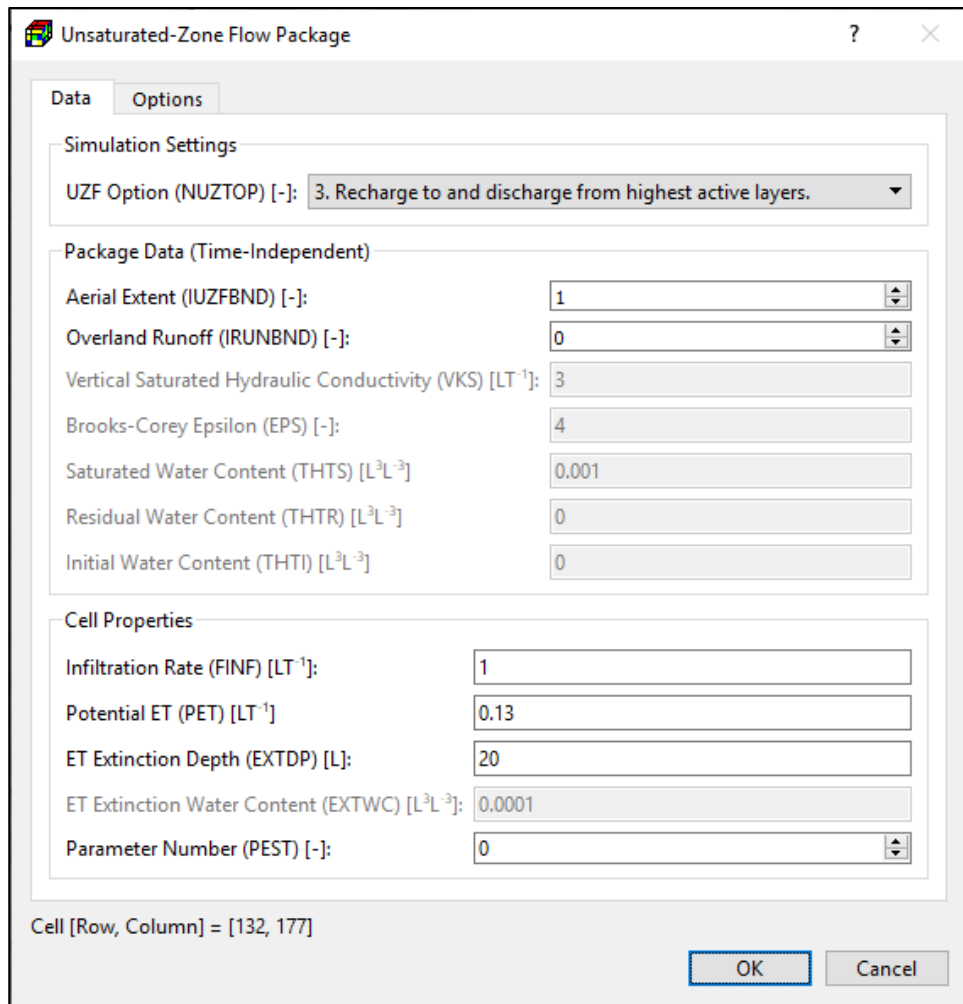

Figure 80. The Unsaturated-Zone Flow Package dialog box
1. All input methods: Figure 80 shows the dialog box for specifying cell, vertex, or polygon properties.